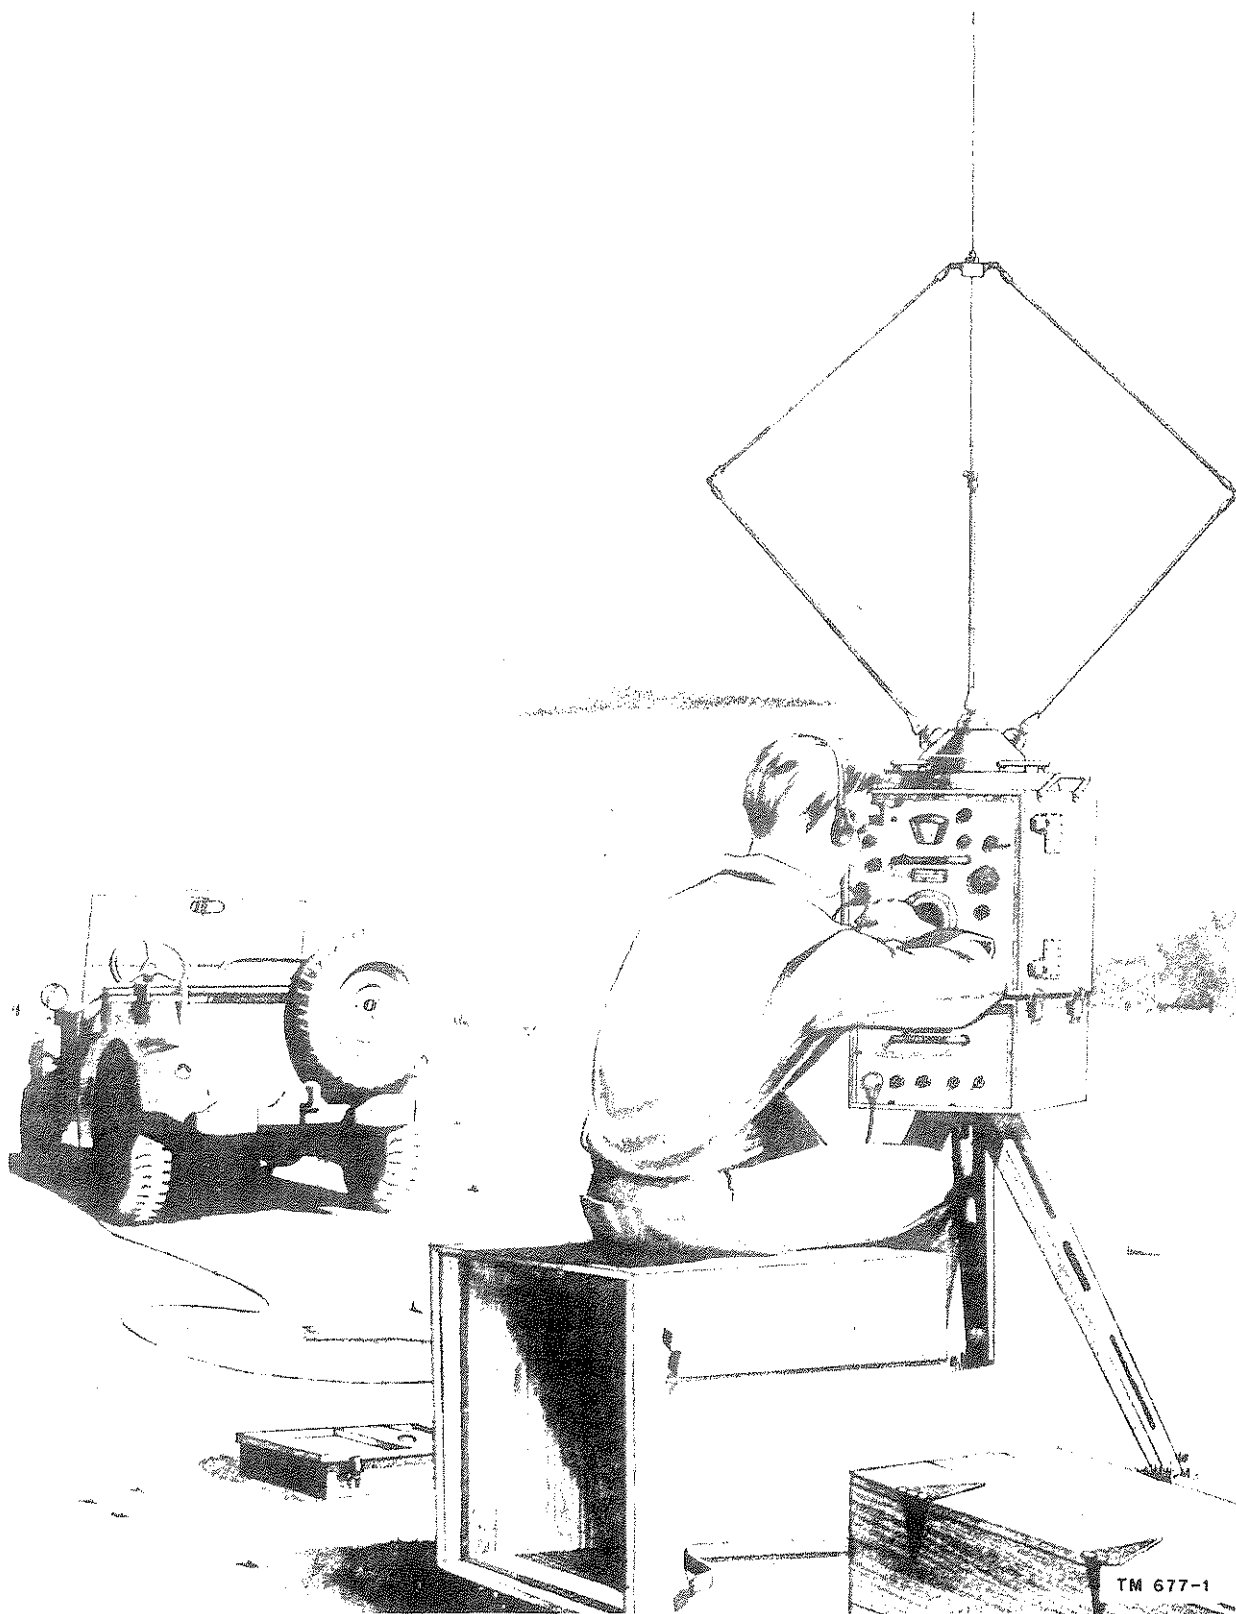

Figure 1. Direction Finder Set AN/PRD-1 in use.
a. This manual contains the basic principles of operation and a description of Direction Finder Set AN/PRD-1 (fig. 1). The theory of operation of the equipment is also given together with instructions for troubleshooting the equipment at field maintenance levels, and the procedure to follow when making repairs. Information is also given for alinement procedures and final testing of the equipment after repairs have been made.